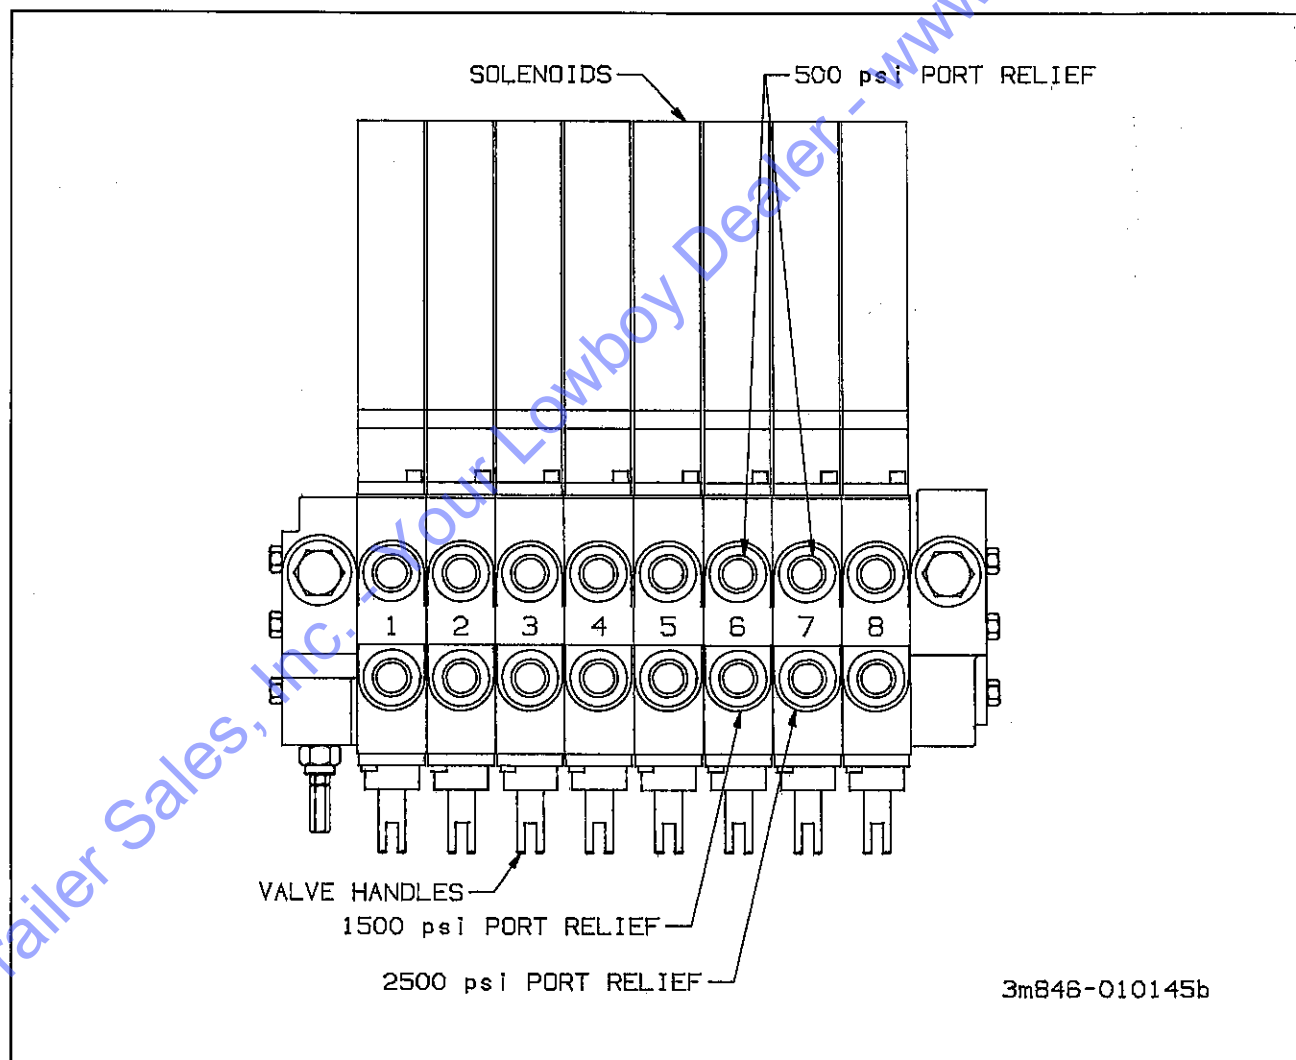

Figure 4-2 Pressure Settings for Control Valve Ports
a. Sections 1 through 5 and 8 on the control valve are set at 2500 psi. Sections 6 and 7 have relief valves. The front ports of section 6 should be set at 1500 psi and the rear port at 500 psi. The front port of section 7 should be set at 2500 psi and the rear port at 500 psi. (see **Figure 4-2**).